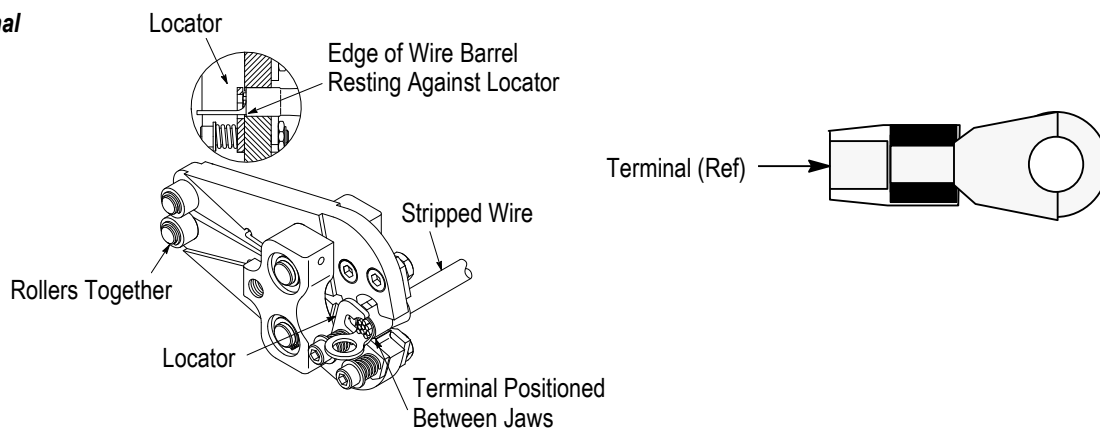

Figure 3
1. Open the jaws by squeezing the rollers together simultaneously; then position the terminal between the jaws as shown in Figure 3. The edge of the wire barrel must rest against the locator.